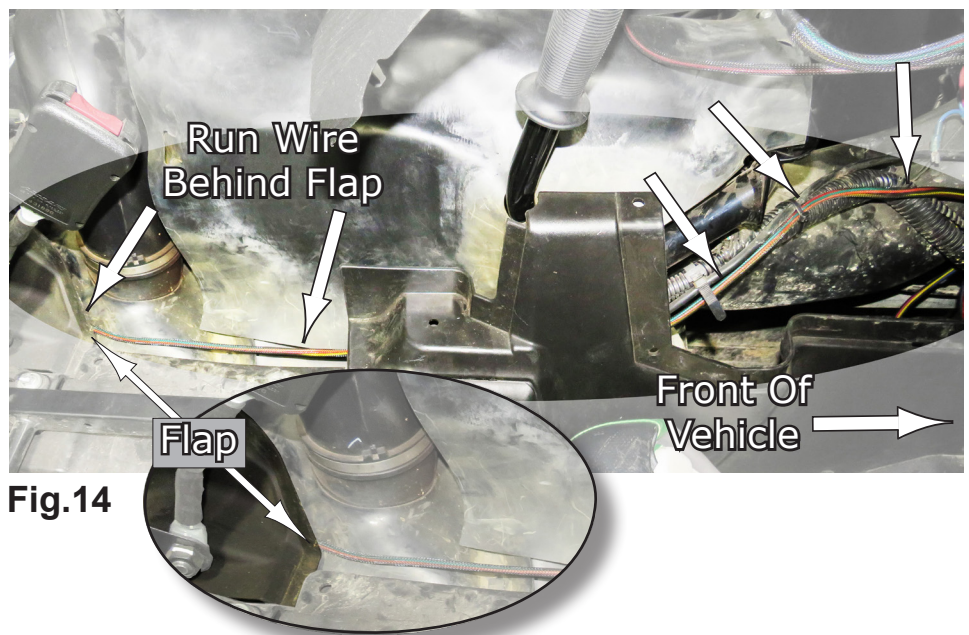

Fig.14
14. To route the cable to the rear section of the vehicle, you will start at the mid point or where you ran it thru the firewall to the front, but will now run the rear part of the harness along the Passenger Console area as shown in **Fig.14**.